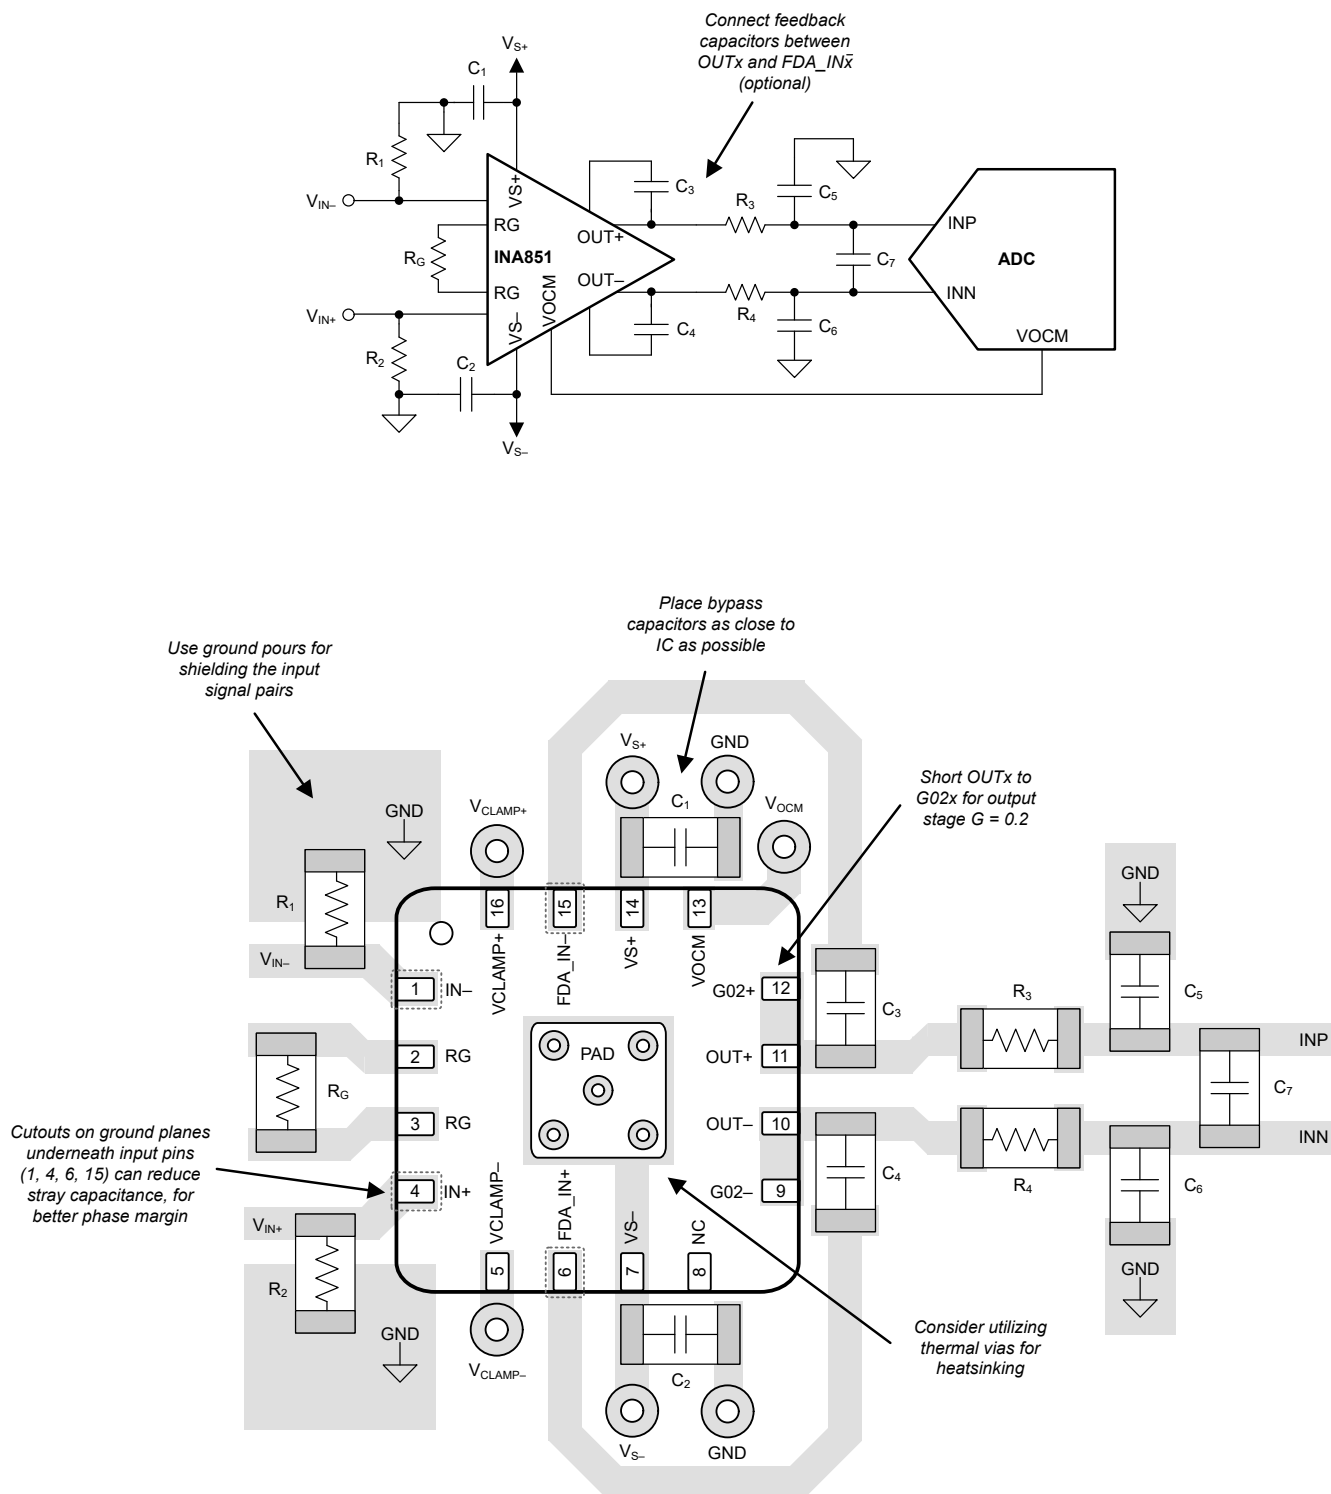

图 9-14. Example Schematic and Associated PCB Layout
- As shown in Figure 9-14, keep the external gain resistor close to the RG pins to keep the loop inductance as low as possible and to avoid a potential parasitic coupling path. Even slight mismatch in parasitic capacitance at the gain setting pins can degrade CMRR over frequency. In applications that implement gain switching using switches or PhotoMOS® relays to change the value of R_G , select the component so that the switch capacitance is as small as possible, and most importantly, so that capacitance mismatch between the RG pins is minimized.